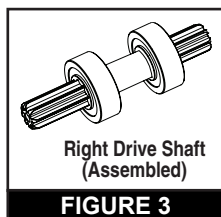

FIGURE 3
RIGHT DRIVE KIT (FIGURE 3 AND 4)
1. Unpackage the new Right Drive Shaft and Bearings. Assemble as shown in **Figure 3**.